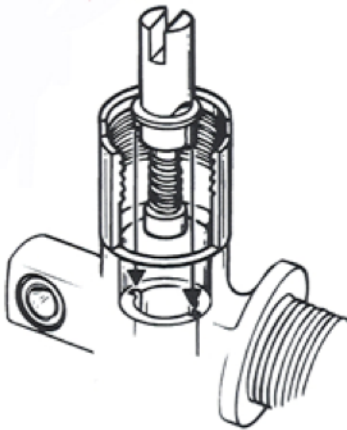

Figure 5
13. Place the washer (17) on the reserve assembly (16). Install the reserve assembly into the body, making sure the two alignment bosses fit into the matching grooves in the valve body.
CAUTION: The reserve assembly (16) has two alignment bosses that must fit into matching grooves in the valve body. (See Figure 5).